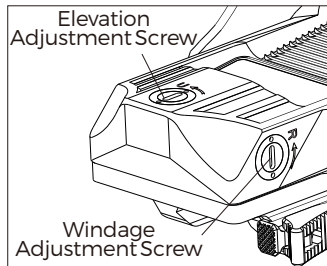

Fig8
2. The Elevation adjustment is located on top of the tail section of the housing and the Windage adjustment is located on the right side of the housing. Adjustment can be performed by inserting the flat-tipped end of the included tool into the turret slot and rotating. (See Fig 8)